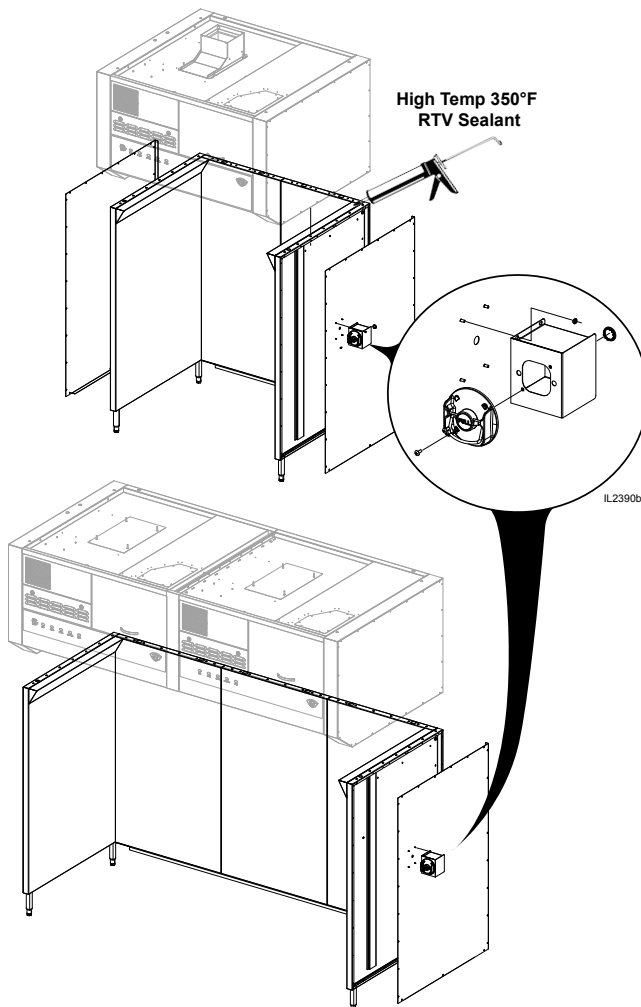

Figure 5
9. Apply a bead of RTV Sealant with a temperature rating of 375°F on the base (*between the base and hood, once hood is lowered*) as shown in (Fig 5). Follow the warning that come with the sealant. **DO NOT** allow a film to form on the bead before lowering the hood down on the base. If a film forms, remove the bead and re-apply a new bead.
10. Using the upper supporting brackets on the hood, lower the hood on top of the base (Fig 5) so the mounting holes line up. Secure with bolt, washer and nut (7 places each side).